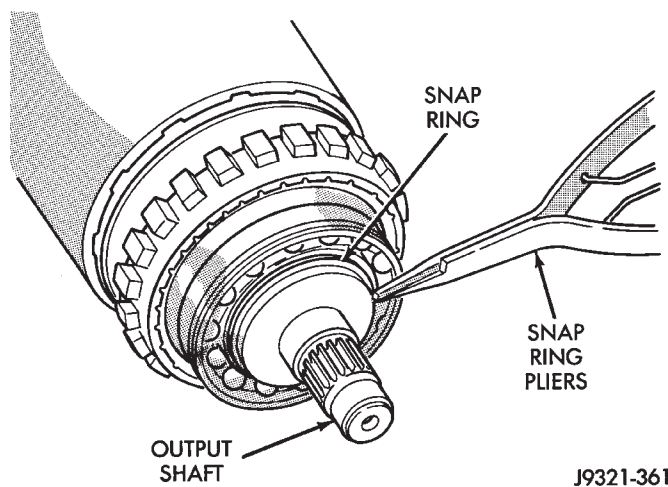

Fig. 260 Rear Bearing Snap Ring Removal/Installation
(7) Remove snap ring that retains rear bearing on output shaft (Fig. 260).